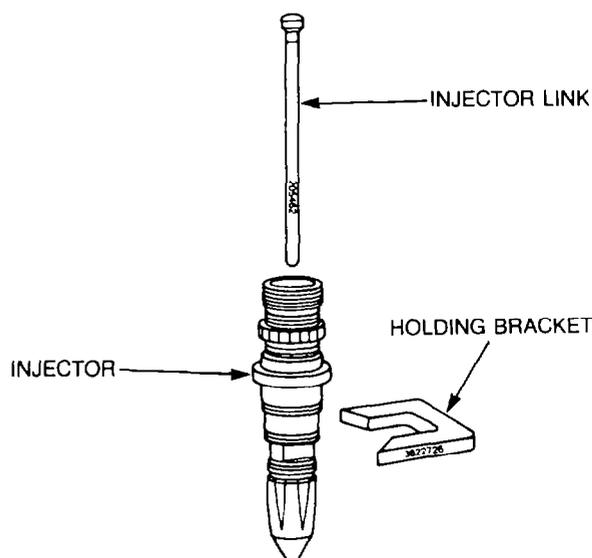

Figure 121 — Holding Bracket and Injector Link
- q. Remove the injector from the top stop setting fixture, then remove the link and the bracket (see Fig. 121).